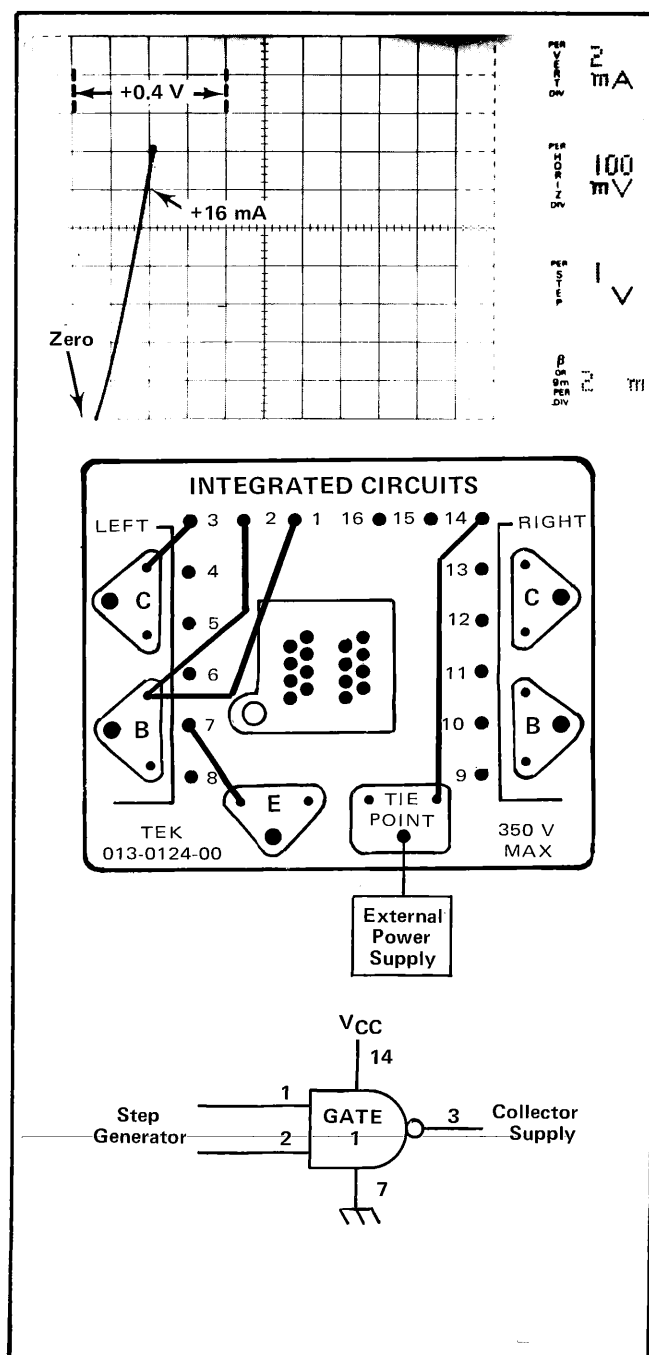

Fig. 6. Setup and Type 576 display for measuring $V_{out}(o)$ with $V_{in}(1)$.
b. Connect the patch wires to the IC adapter as shown in Fig. 6.
d. Set the LEFT-OFF-RIGHT switch to LEFT and turn the VARIABLE COLLECTOR SUPPLY control clockwise until the gate output conducts at least 16 mA (see the display in Fig. 6).